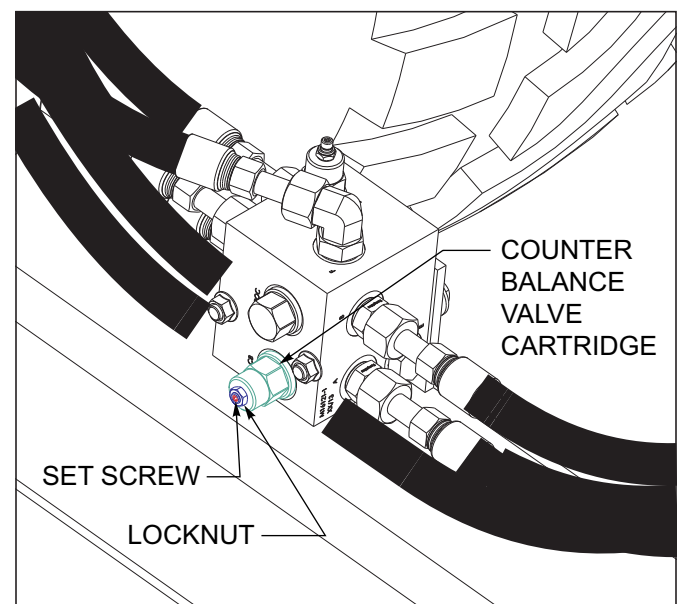

Figure 4-6: Hydraulic Gate Adjustment
- a. Loosen the locknut on the counterbalance valve cartridge See Figure 4-6.